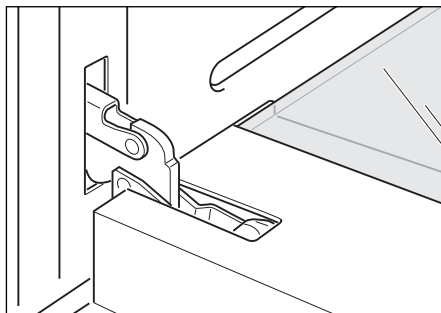

Fig.25a
- Open the door to the full extent (Fig. 25a).